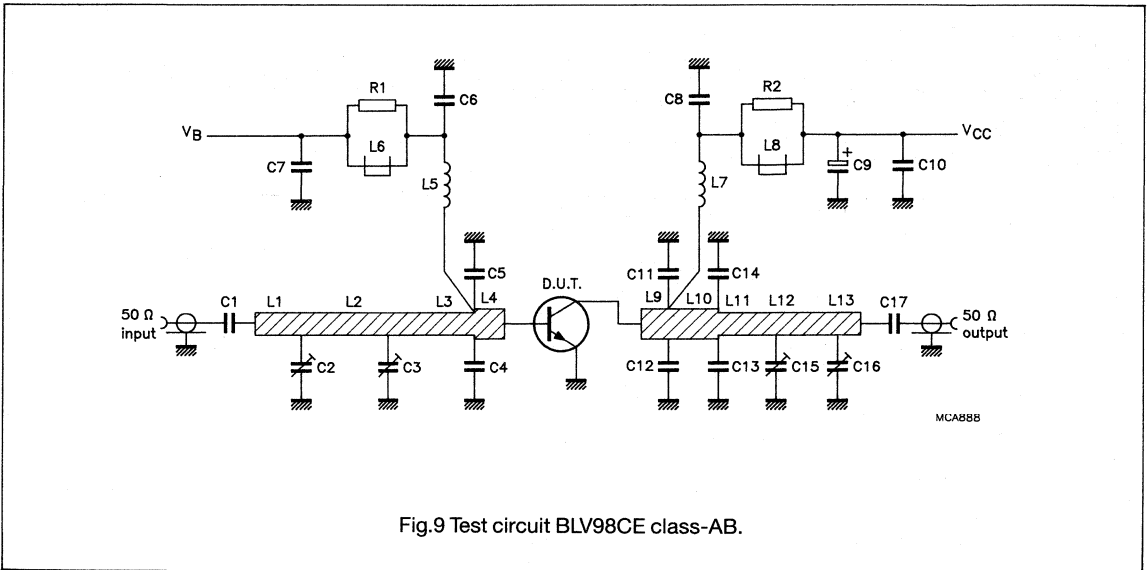

Fig.9 Test circuit BLV98CE class-AB.
**UHF power transistor****BLV98CE****APPLICATION INFORMATION** (continued)**List of components** (Fig. 9)